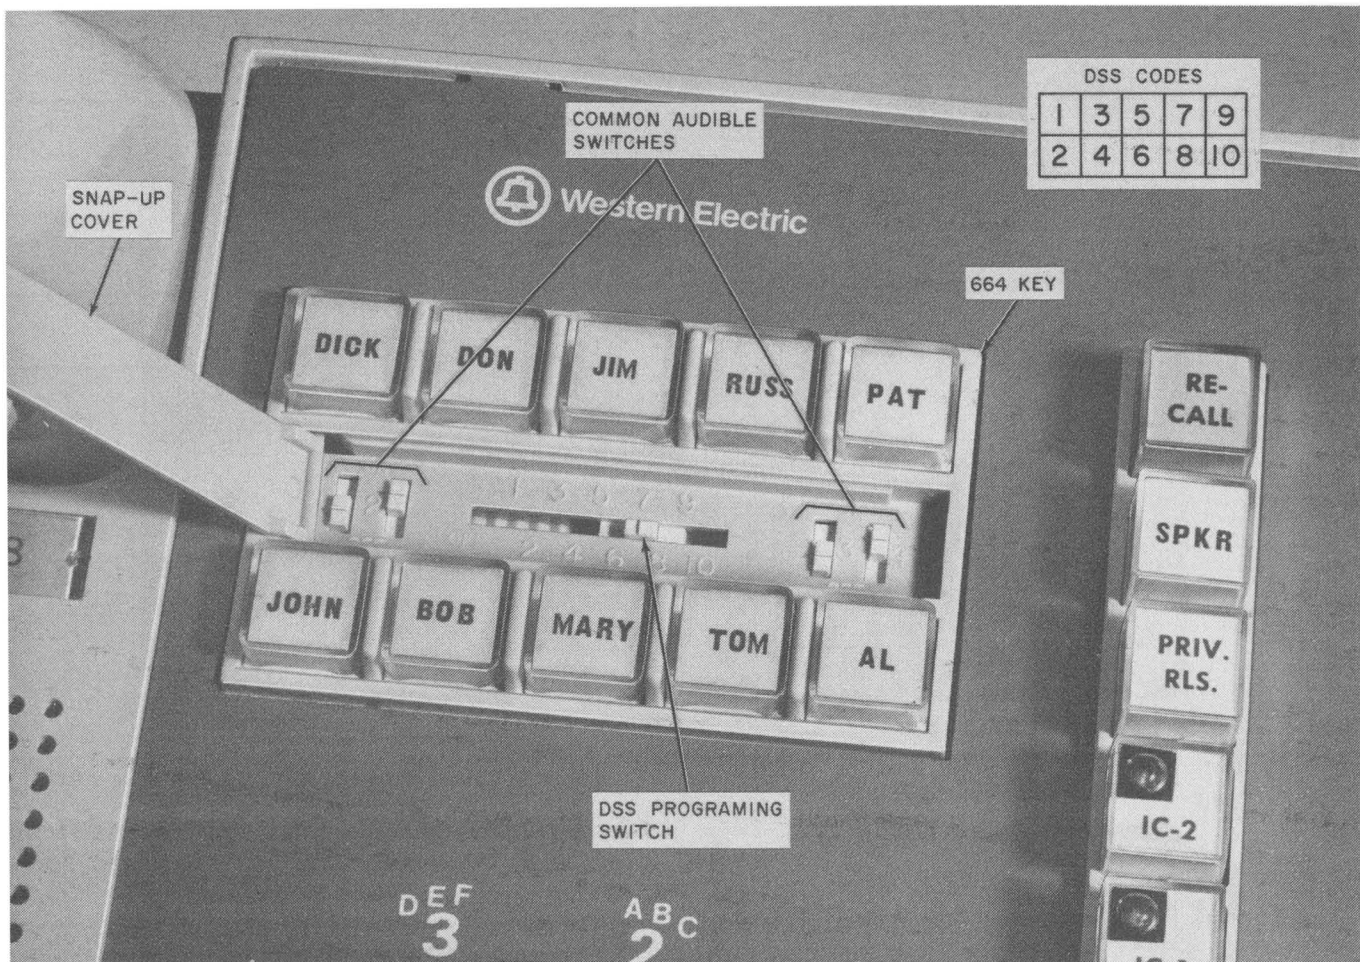

Fig. 7—DSS Key
3.09 The DSS programming switch and common audible switches (Fig. 7) must be set as required at each station as follows:
- (1) Raise cover either by pressing on the extreme left end to tilt the cover or pry up the right end of the cover using a fingernail.
- (2) Determine the DSS code for that station and slide the program switch to that number. For example, Fig. 7 shows the station designated as DSS code 7.